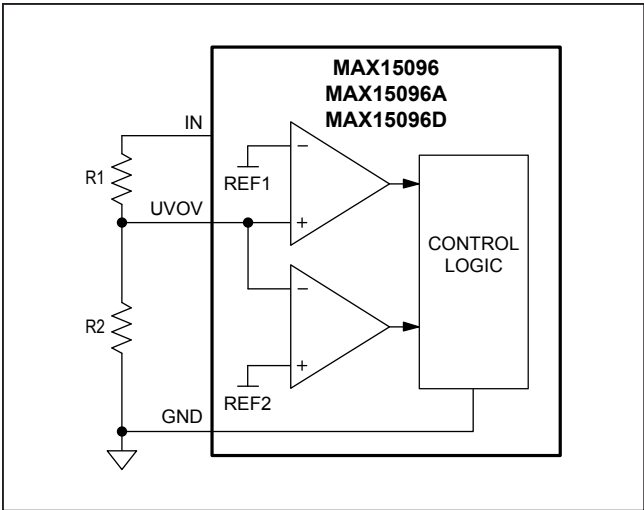

Figure 1. Undervoltage/Overvoltage Threshold Setting
1.23V. An external resistive divider from IN to UVOV and ground provide the flexibility to select the undervoltage/overvoltage-lockout threshold to the desired value. See Figure 1 and the Setting the Undervoltage/Overvoltage Threshold section in the Applications Information section.